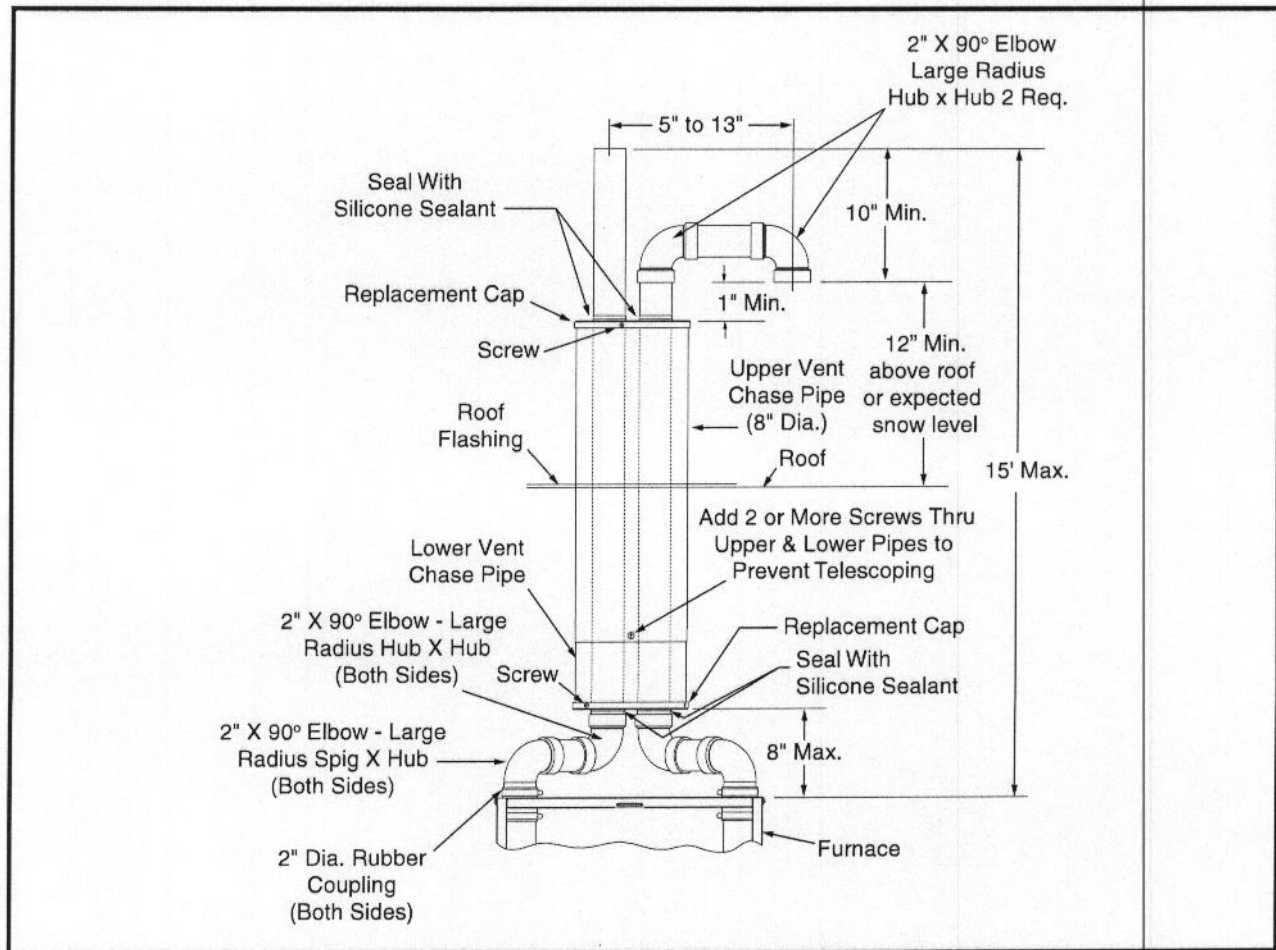

Figure 1. Vent & Combustion Air Intake Pipe Installation
4. Cut the 2" pipes according to the installation and route vent and combustion air intake pipes through the replacement caps shown in Figure 1.
8. Secure the upper vent chase pipe to the lower vent chase pipe (at the bottom of the upper chase pipe) using at least two screws. See Figure 1.